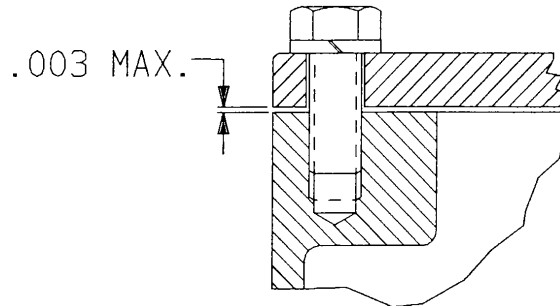

FIGURE 4
- (WEEKLY) 5. () Headlight switch cover is properly installed with all bolts and lockwashers in place and tight (Figure 4).